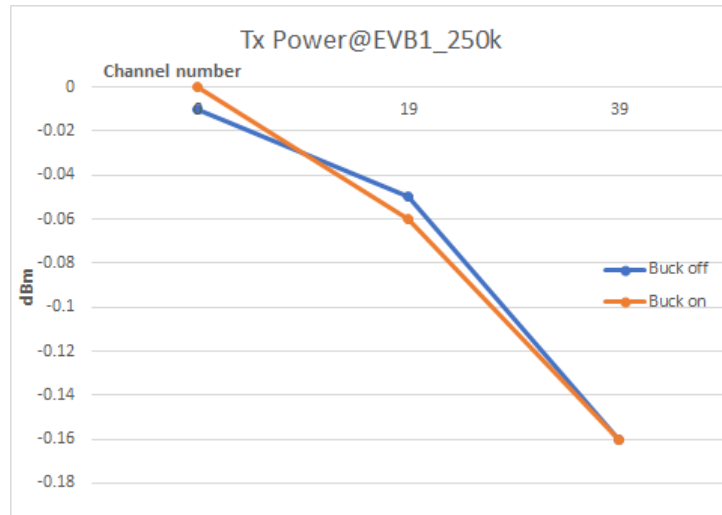

Fig 8. Tx output power @ 250 kbit/s
- The Tx output power measurement result is in the “Demodulation Results” field. The Tx output power measurement with the GFSK data rate of 250 kbit/s is shown in Fig 8.